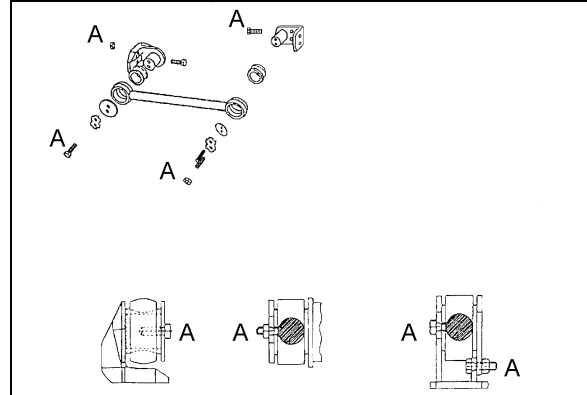

FIGURE 8: RADIUS ROD INSTALLATION 16028
2. Place a flat steel disc, slightly smaller than the outside diameter of the bushing (Fig. 8).
1. Lightly spray the radius rod support with water. Place the radius rod end over the radius rod support (Fig. 8).